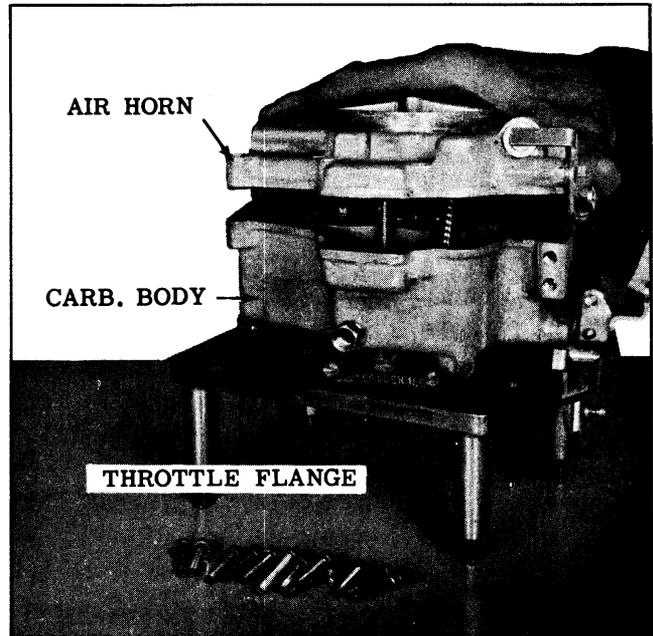

Fig. 8-126 Removing Air Horn Assembly
3. Remove eleven cover screws and lift air horn assembly from carburetor body. (See Fig. 8-126)